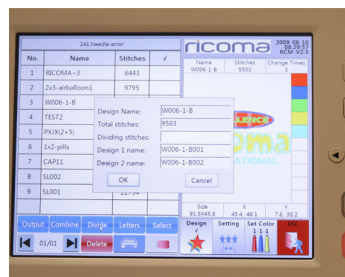

Figure 70
5. A menu will appear. Under the "dividing stitches" option, input the number of stitches you wish to be the cut-off point to divide the design. **See Figure 70.**